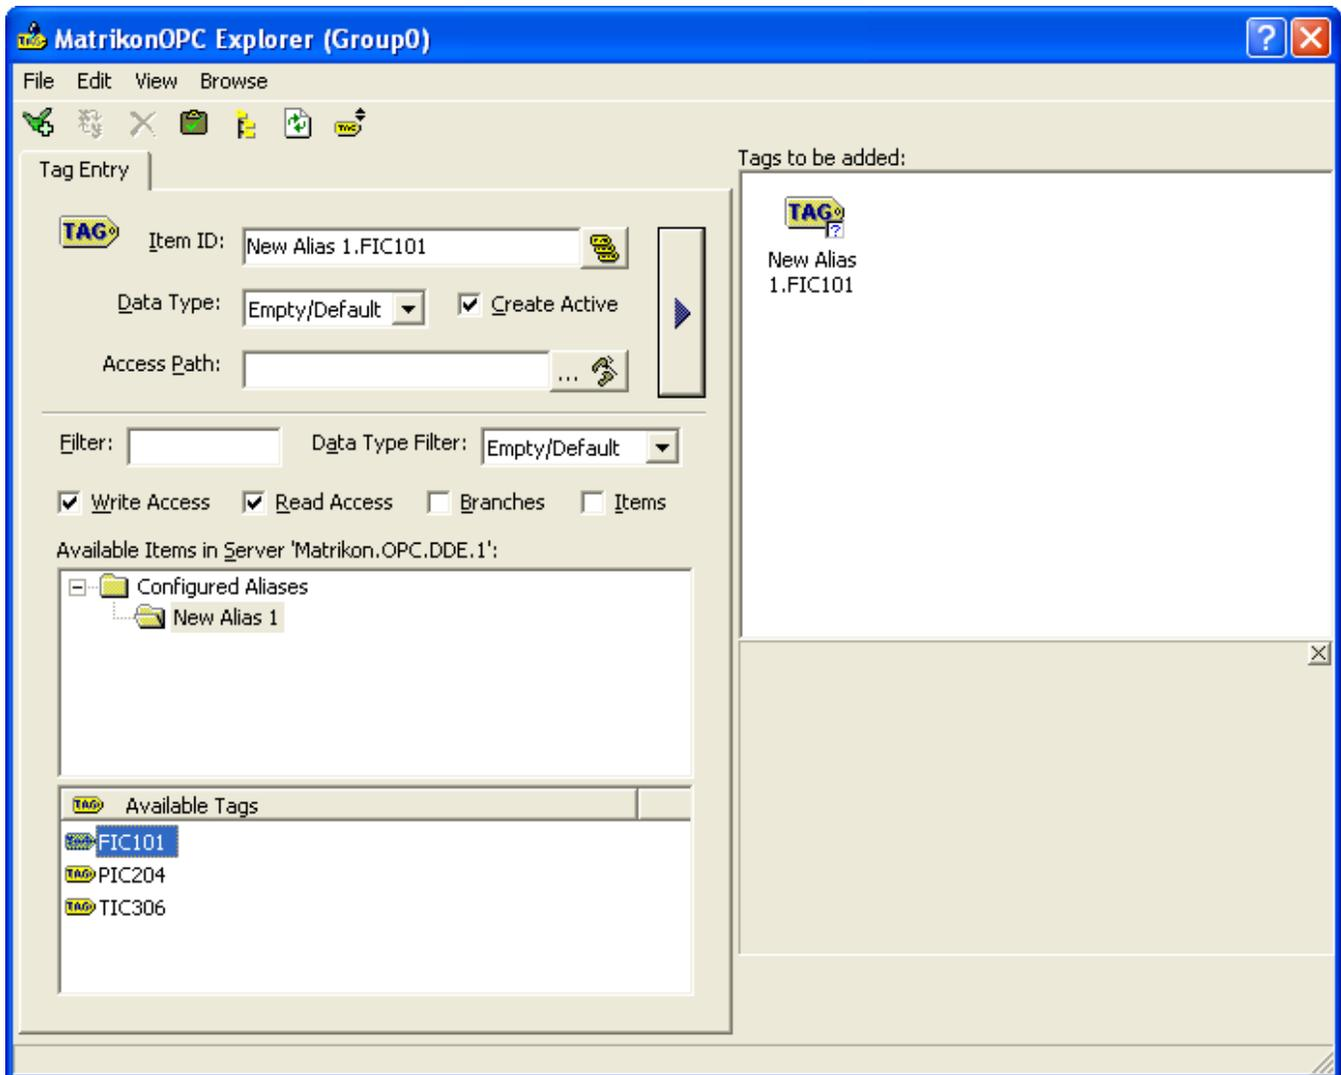

Figure 13 - Configured Tags
- The tag name appears in the **Item ID** field (Figure 13).